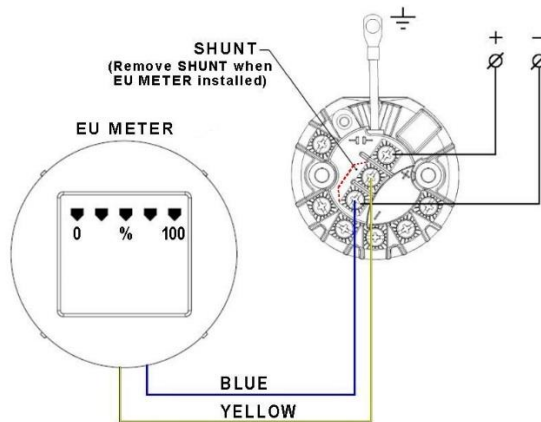

Figure 14: Installation with EU Meter
- If an EU meter is used, wire according to Figure 14.